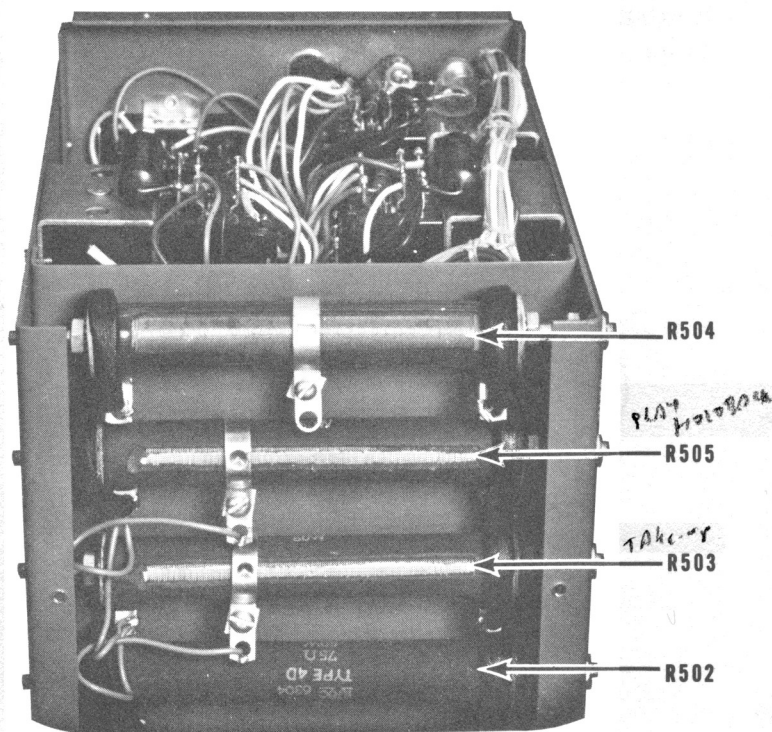

Fig. 4-1 Tape Tensioning Resistors
- 6) If the indication in Step 5 is incorrect, turn power off, remove the cover on the transport control box, and adjust the slider on resistor R505 (see Fig. 4-1) as applicable. Correcting a high reading requires that the slider short a lesser part of the resistor, correcting a low reading requires that more of the resistor be shorted. After adjustment, re-apply power and check the torque. Repeat as necessary to obtain the readings quoted.
- 8) Repeat the entire procedure at the takeup turntable. Note that the cord should be wrapped clockwise on the reel hub, and that adjustment is made at the slider of R503 (see Fig. 4-1). Scale INDICATION should be the same as for the rewind turntable.